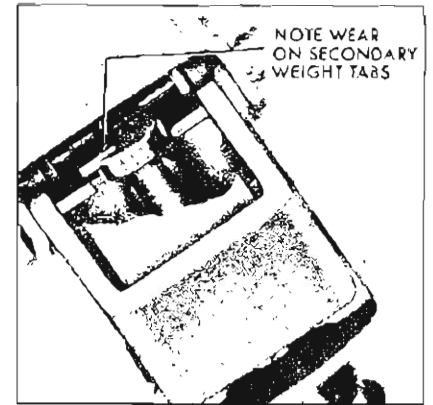

Figure 5-237
1. Check secondary governor weight tab wear. See Figure 5-237.